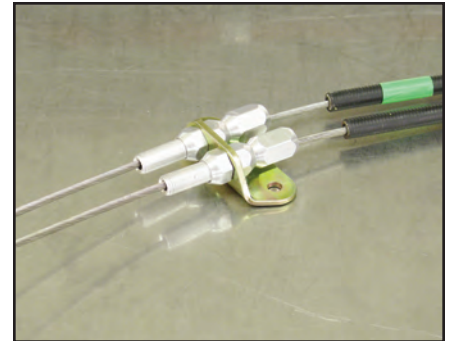
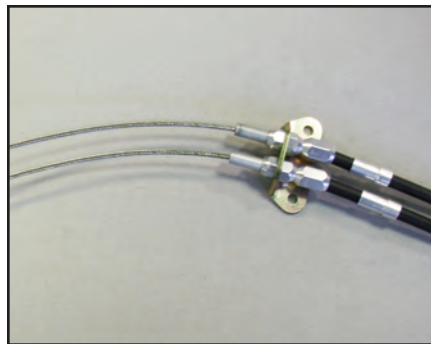

Figure 5
Figure 6
- Slide the Housing End Adjuster over the two inner cables, until it bottoms out against the cable covers, Figure 5. Remove tape from cable covers and slide ferrules into the Housing End Adjuster, Figure 6 and 7. **NOTE:** Put a little red Loctite® 271 on ferrule before inserting to help hold it in position.